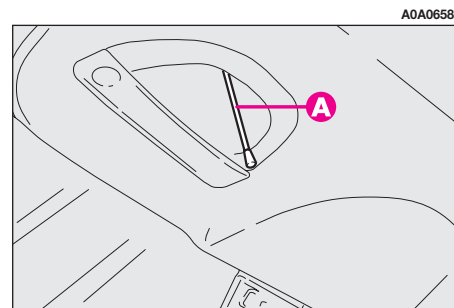

fig. 144
- unlock the lock by pulling the string (**A** fig. 144) (the string is located inside the right recess in the tailgate).